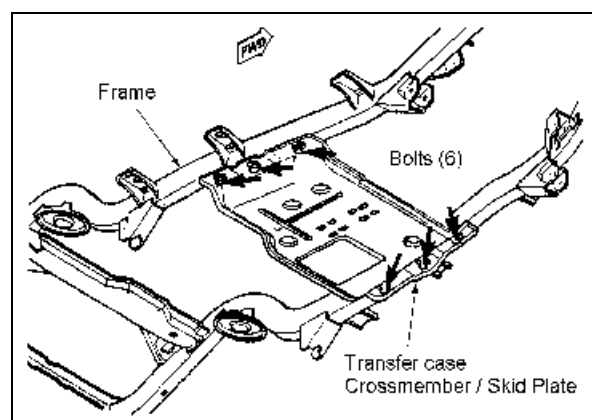

Figure 11
1. ≤ Place the transmission in neutral. Support the transfer case crossmember/skid plate with a hydraulic jack. Loosen the 6 bolts holding the crossmember to the frame. See figure 11.